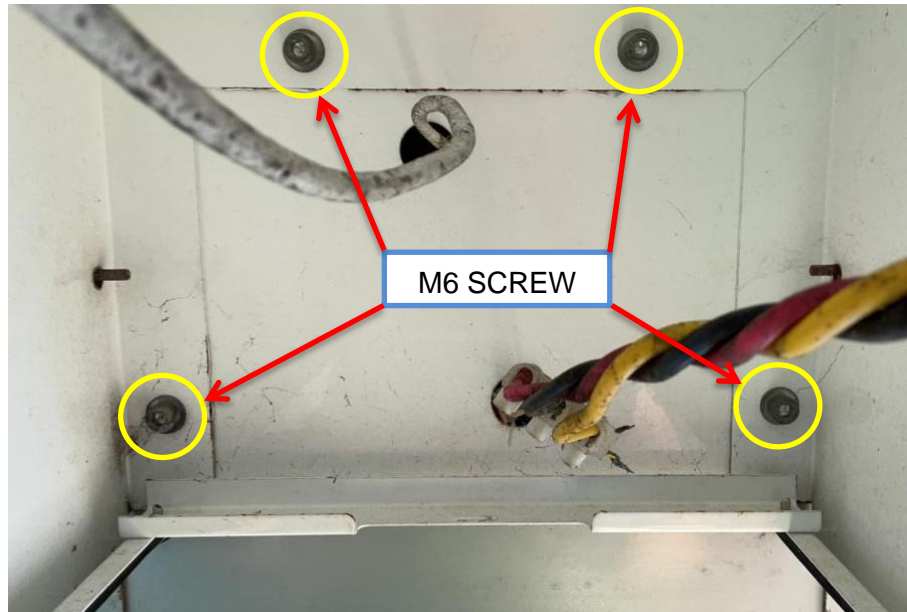

Fig 2.3 – Use a socket Hex bit wrench to untighten the screw.
4. After finish dismantle all the cable that connect the main case with stand, continue with untighten the screw that connecting the stand and main case. By removing this screw, the main case is no longer attach to stand. This process required more than one man power because someone need to hold the main case from collapse. (Fig 2.3)